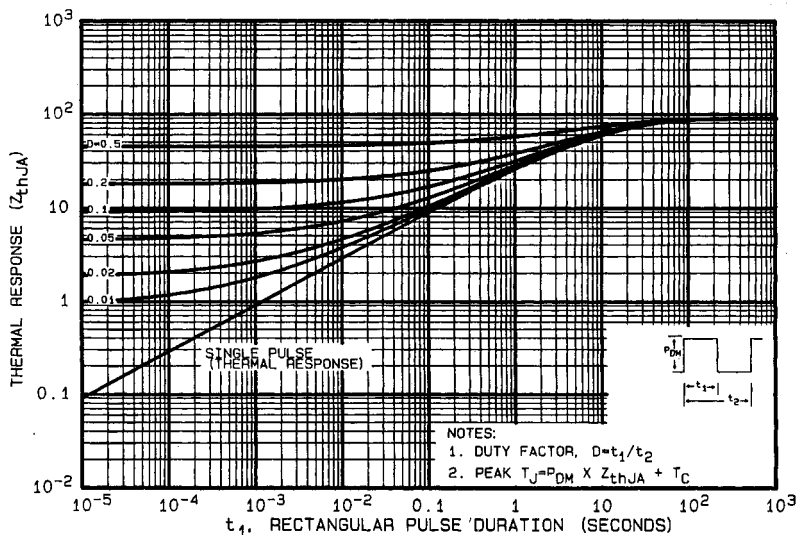

Fig. 9—Maximum Effective Transient Thermal Impedance, Junction-to-Ambient Vs. Pulse Duration
① Repetitive Rating: Pulse width limited by maximum junction temperature (see figure 9)